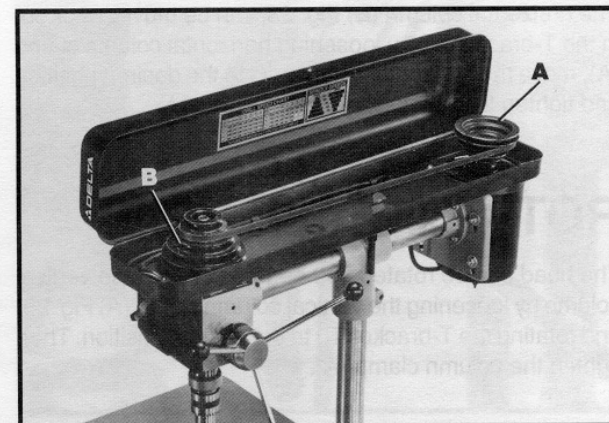

Fig. 29
The motor was assembled to the horizontal column at the factory so that the motor pulley (A) Fig. 29, is aligned with the spindle pulley (B) allowing the belt to run true and further adjustment should not be necessary. However, rough handling during shipment or repair or replacement of certain components might disturb this setting. If an adjustment is necessary, proceed as follows: